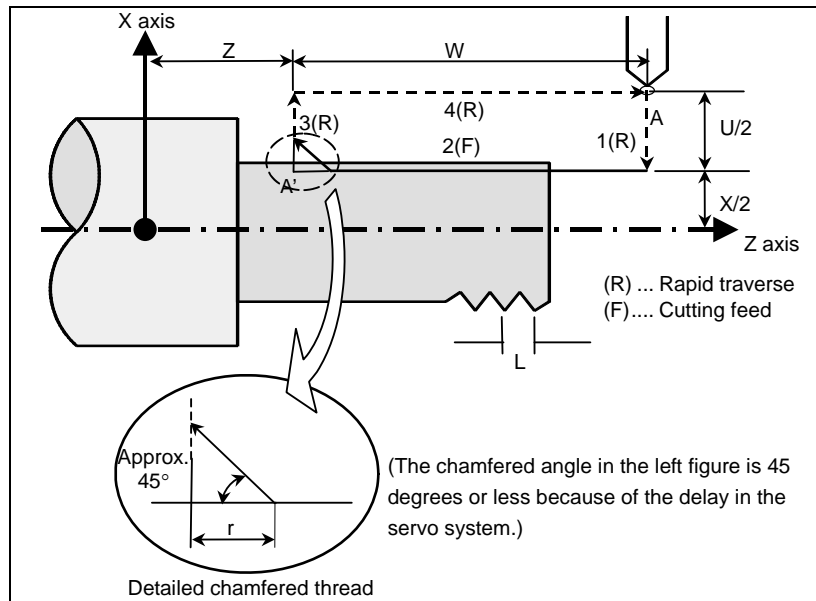

Fig. 6.3.2.1 (a) Straight threading cycle
- X_,Z_ : Coordinates of the cutting end point (point A' in the Fig. 6.3.2.1 (a)) in the direction of the length
- U_,W_ : Travel distance to the cutting end point (point A' in the Fig. 6.3.2.1 (a)) in the direction of the length
- F_ : Thread lead (L in the Fig. 6.3.2.1 (a))